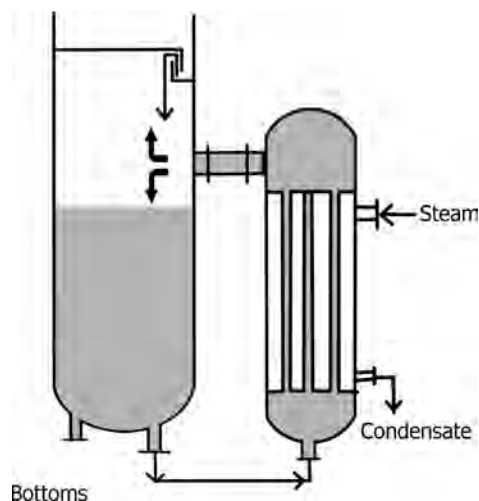

FIGURE 11.10 Vertical thermosiphon reboiler.
- What is the maximum percent vaporization that may be acceptable in a vertical thermosiphon vaporizer illustrated in Figure 11.10. Give reasons for this choice.
- Figure 11.10 illustrates flow arrangements with a vertical thermosiphon reboiler.
- *True.* A single pass TEMA E-type shell is generally used as shown in Figure 11.10.